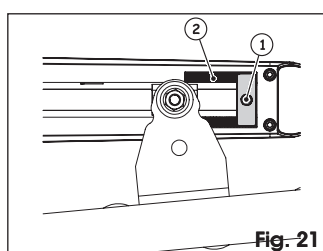

Fig. 21
3. Loosen the securing screw, figure 21 ref. ①. The screw does not need to be completely removed.
The mechanical stop is coupled to a toothed sector, figure 21 ref. ②. In the case of obstructions during movement, check that the coupling is free. DO NOT USE FORCE.